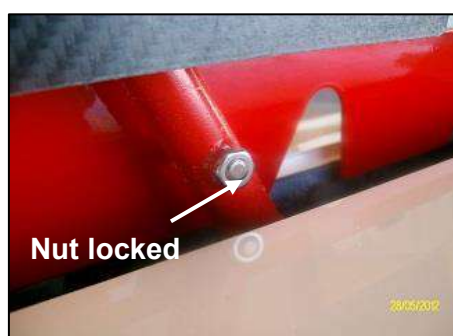

Figure 27-38: Bolt airbrake blade 3 onto airbrake lifters
10. Use the supplied M6 half locknuts to lock the bolts to the airbrake lifters as illustrated in Figure 27-38.